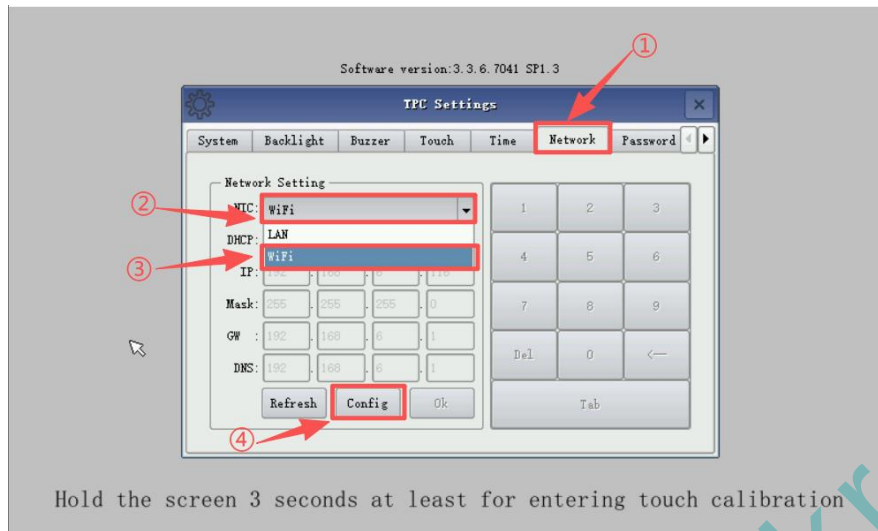

Figure 7.27: WiFi Configuration Interface 1
- 5) Click the "Network" option in the title bar of the "TPC System Settings" interface to display the Network Settings screen. On this screen, click the drop-down menu next to "Network Adapter," and then select "WiFi" from the options that appear. If the selection field updates to display "WiFi," the selection was successful; then, click the "Configure" button located below (as shown in Figure 7.27).